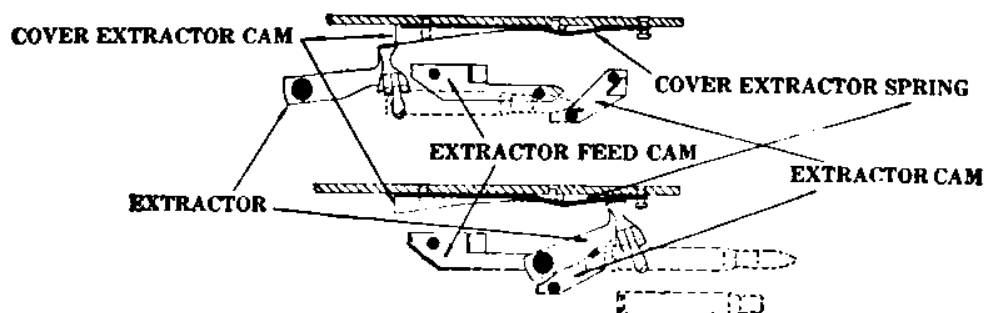

FIGURE 11.—Extracting and loading mechanism.
■ 41. FORWARD MOVEMENT OF BOLT (figs. 11 and 13).—When the bolt starts forward, the extractor is guided downward by
■ 43. LOADING AND LOCKING ACTION (figs. 11 and 14).—During the latter part of the forward movement of the bolt, the extractor rises as the plunger moves along the top of the extractor cam. When the extractor rises, the ejector is cammed outward, into the half-moon-shaped recess, leaving the cartridge in the chamber gripped by the T-slot. The extractor grips the first round in the belt and is held down firmly by the cover extractor spring, ready to extract the